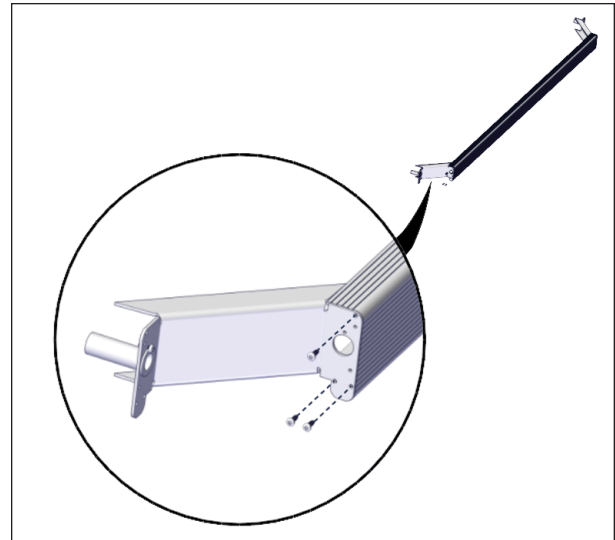
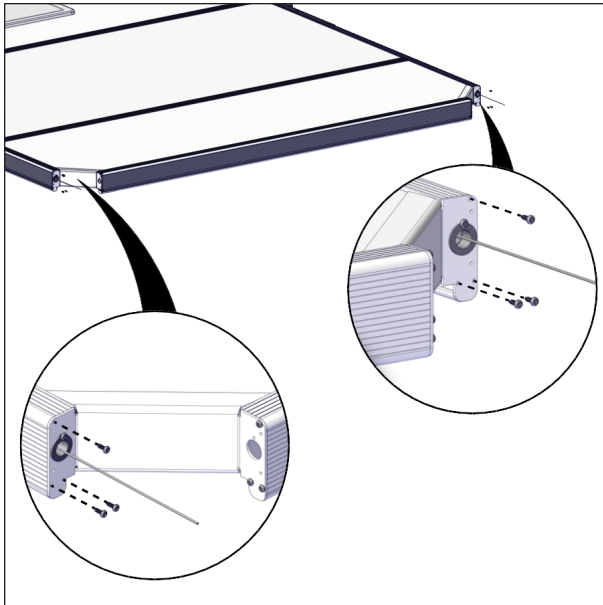
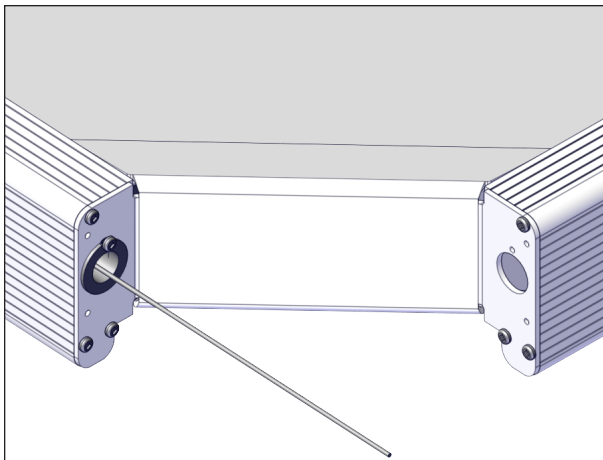

FIGURE 45: CORNER BRACKET SUPPORT INSTALLATION
FIGURE 46: END C-CHANNEL INSTALLATION
FIGURE 47: WIRE INSTALLATION
2. Install one left and one right corner bracket supports on each end C-channel with three no. 8 x 1/2" self-tapping screws, see Figure 45.
Figure 45 and Figure 46 display the proper orientation of the left and right brackets.
3. Take the assemblies made at the previous step (Figure 45) and slide them on the edge panels (Figure 46) located on each side of the cover. Make sure that the wire passes through the hexagonal guide bushings (Figure 47).
4. Use a no. 2 square screwdriver to secure the corner bracket on the short C-channel by using the no. 8 x 1/2" screws (Figure 46).